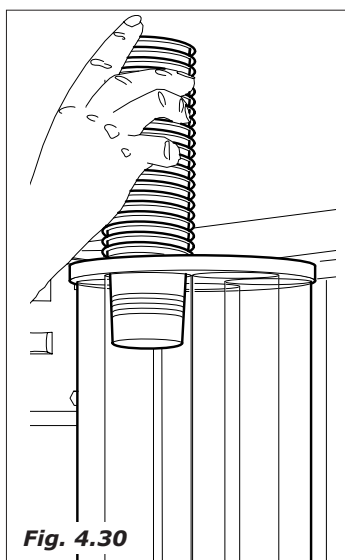

Fig. 4.30
- Check that the cup column is not aligned with the distribution outlet, then fill all the columns proceeding in an anti-clockwise sense, opposite sense (when the column is aligned with the distribution outlet), close the door and switch on the machine so that the cup column rotates and automatically places itself in a position in which it is not aligned with the inlet and then proceed to fill (Fig.4.30)